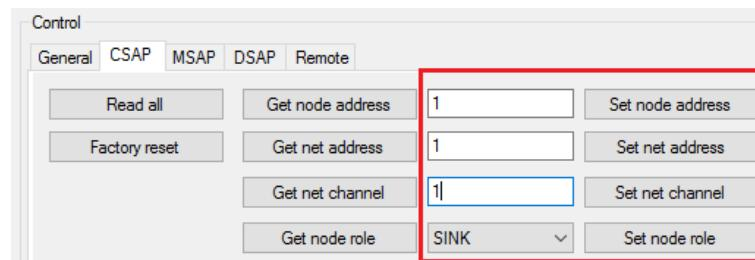

Figure 8: Configure the node
b) Go to the "Configuration" tab and set a unique node address, set the network address, set the network channel and set the node role to "SINK" (e.g. 1 for node address, network address and network channel, refer to Figure 8).